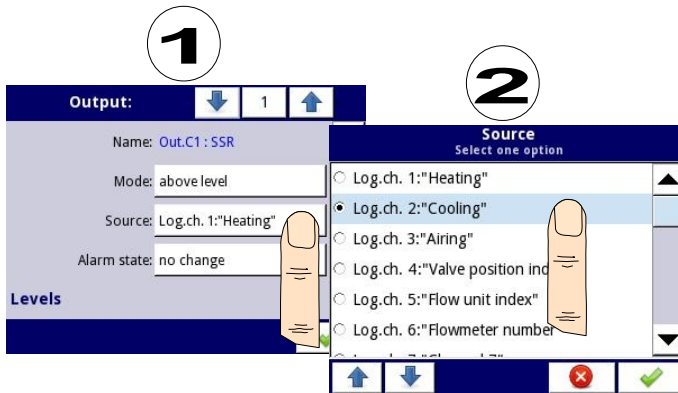

Fig. 7.78. Data source settings for built-in output (for SSR output module)
- **Source** – this parameter contains a list of logical channels (up to 60), where the selected logical channel will be a data source for this built-in output (see **Fig. 7.78**).
- **Source** - this parameter contains a list of logical channels (up to 60), where the selected logical channel will be a data source for this built-in output (see **Fig. 7.78**).
- **Source** – this parameter contains a **Logical channels** list, where the selected logical channel will be a data source for this built-in output (see **Fig. 7.78**).